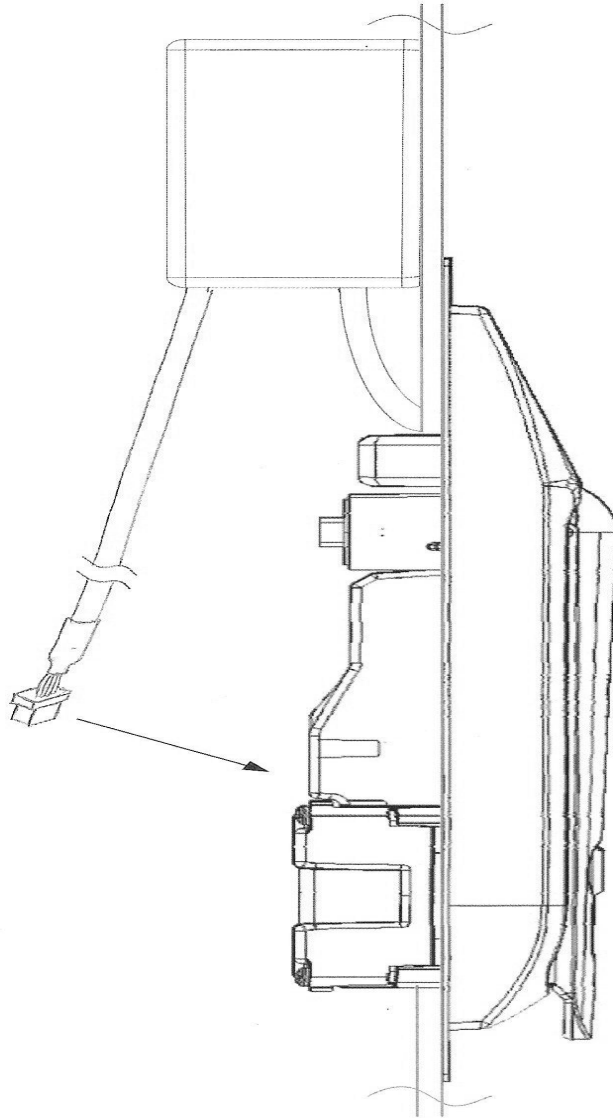

Figure 8
- Situate the lock on the outside of the cabinet door, so that the ribbon cable attached to the finger-sensor assembly is at the top of the locking opening. (See Figure 8)
- Attach the lock wire coming out of the Door Interface Box to the back of the lock as shown in Figure 8. **The wire will only plug in one way.**